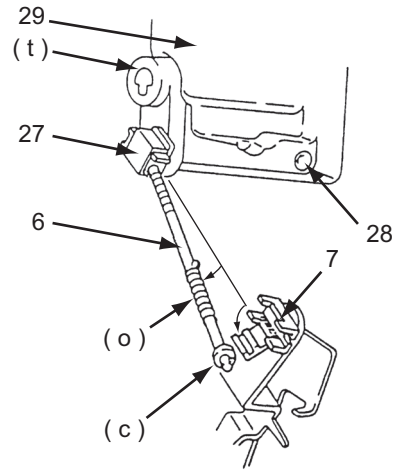

Figure-12
- Turn the power On and set to the "Air Blow" mode, one green and one red Operation Panel LED will glow. (Beware that the lever (t) rotates.) Wait for 10 seconds, and then check to see if the lever (t) is at the location shown in Figure-12.
- Turn OFF the power and fix the rod (6) as explained in w of the previous section.